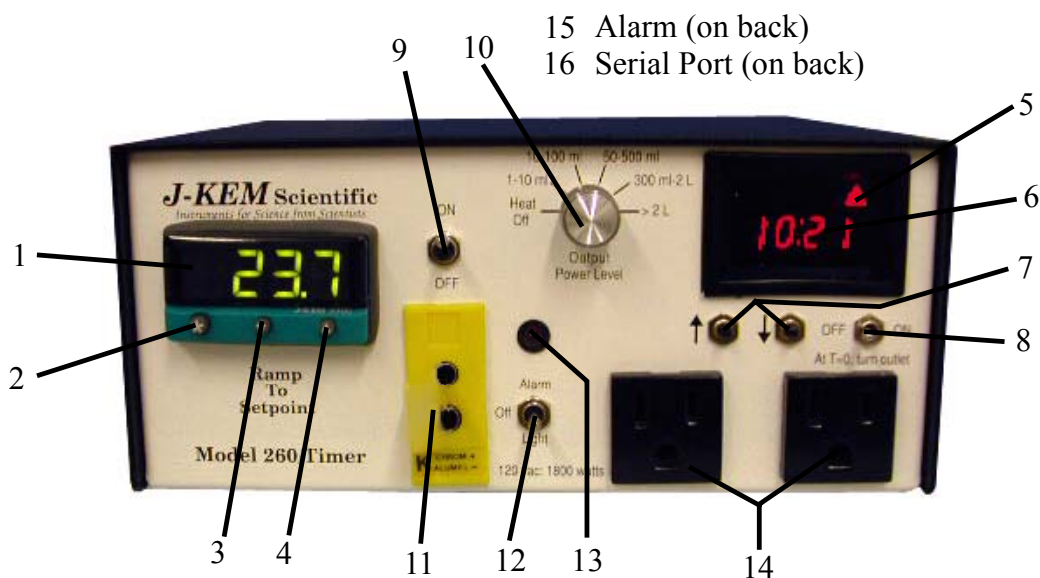

Figure 1
3.5 Temperature Sensor Input. Every controller is fitted with a specific *type* of thermocouple input and can only be used with a thermocouple of the same type. For the correct temperature to be displayed, the thermocouple type must match the receptacle type on the front of the controller (Figure 1; # 5). All thermocouples are color coded to show their type (Blue = type T; Yellow = type K; Black = type J). The color of the thermocouple plug must match the color of the receptacle on the front of the controller. If the thermocouple is broken or becomes unplugged, the error message "inPt" "FAiL" blinks in the temperature meter display and the controller stops heating.